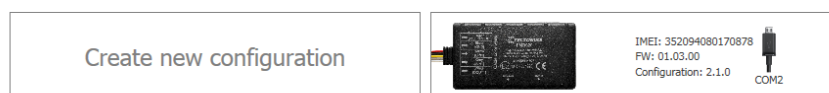

Figure 10 FMB900 configurator window when selecting the connection method
- 'Connect to device' (Figure 10) – connects device.